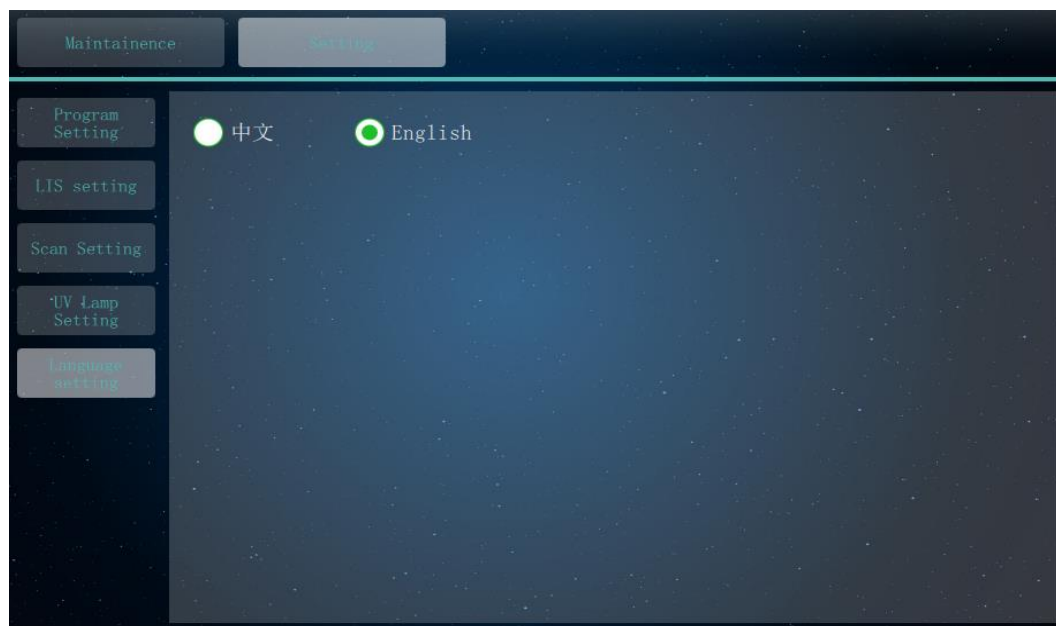

Figure 5-14e. Setting Subtab – Language Setting
- ▶ **< Language Setting >**: User can click on this function key to set the system language, as shown in figure 5-14e. PANA system software provides two system languages by default: